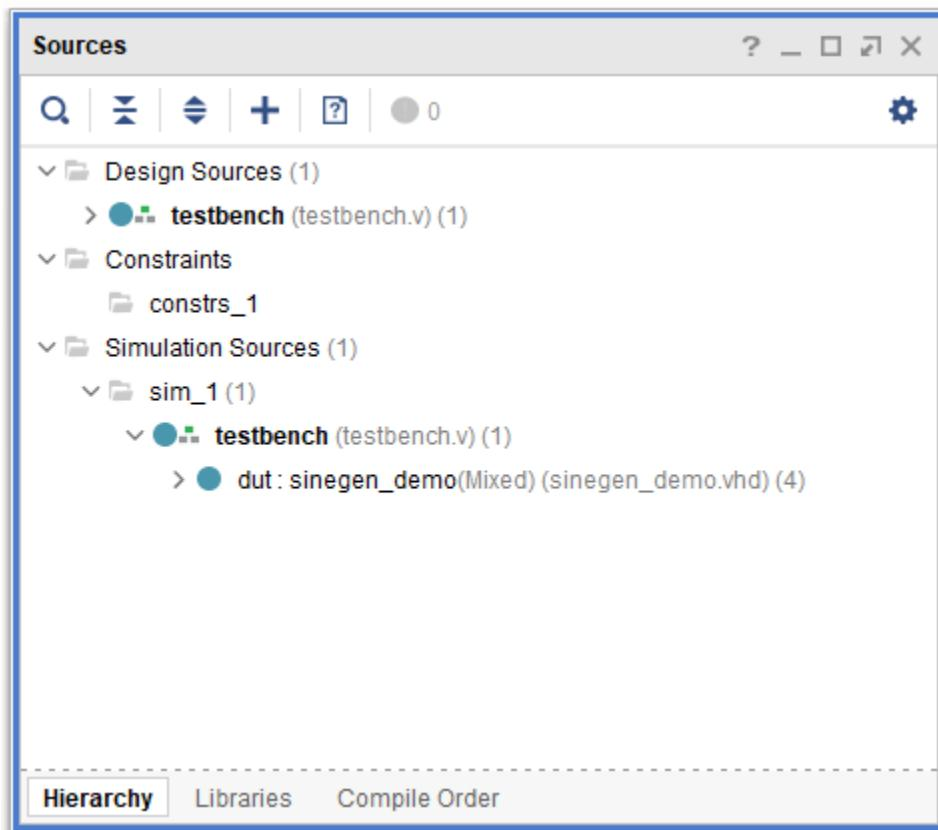

Figure 8: Sources window
1. Click the **>** icon in the Sources window to expand the folders as shown in Figure 8. Expand all **>** button can be used to view all the files at all levels of hierarchy.